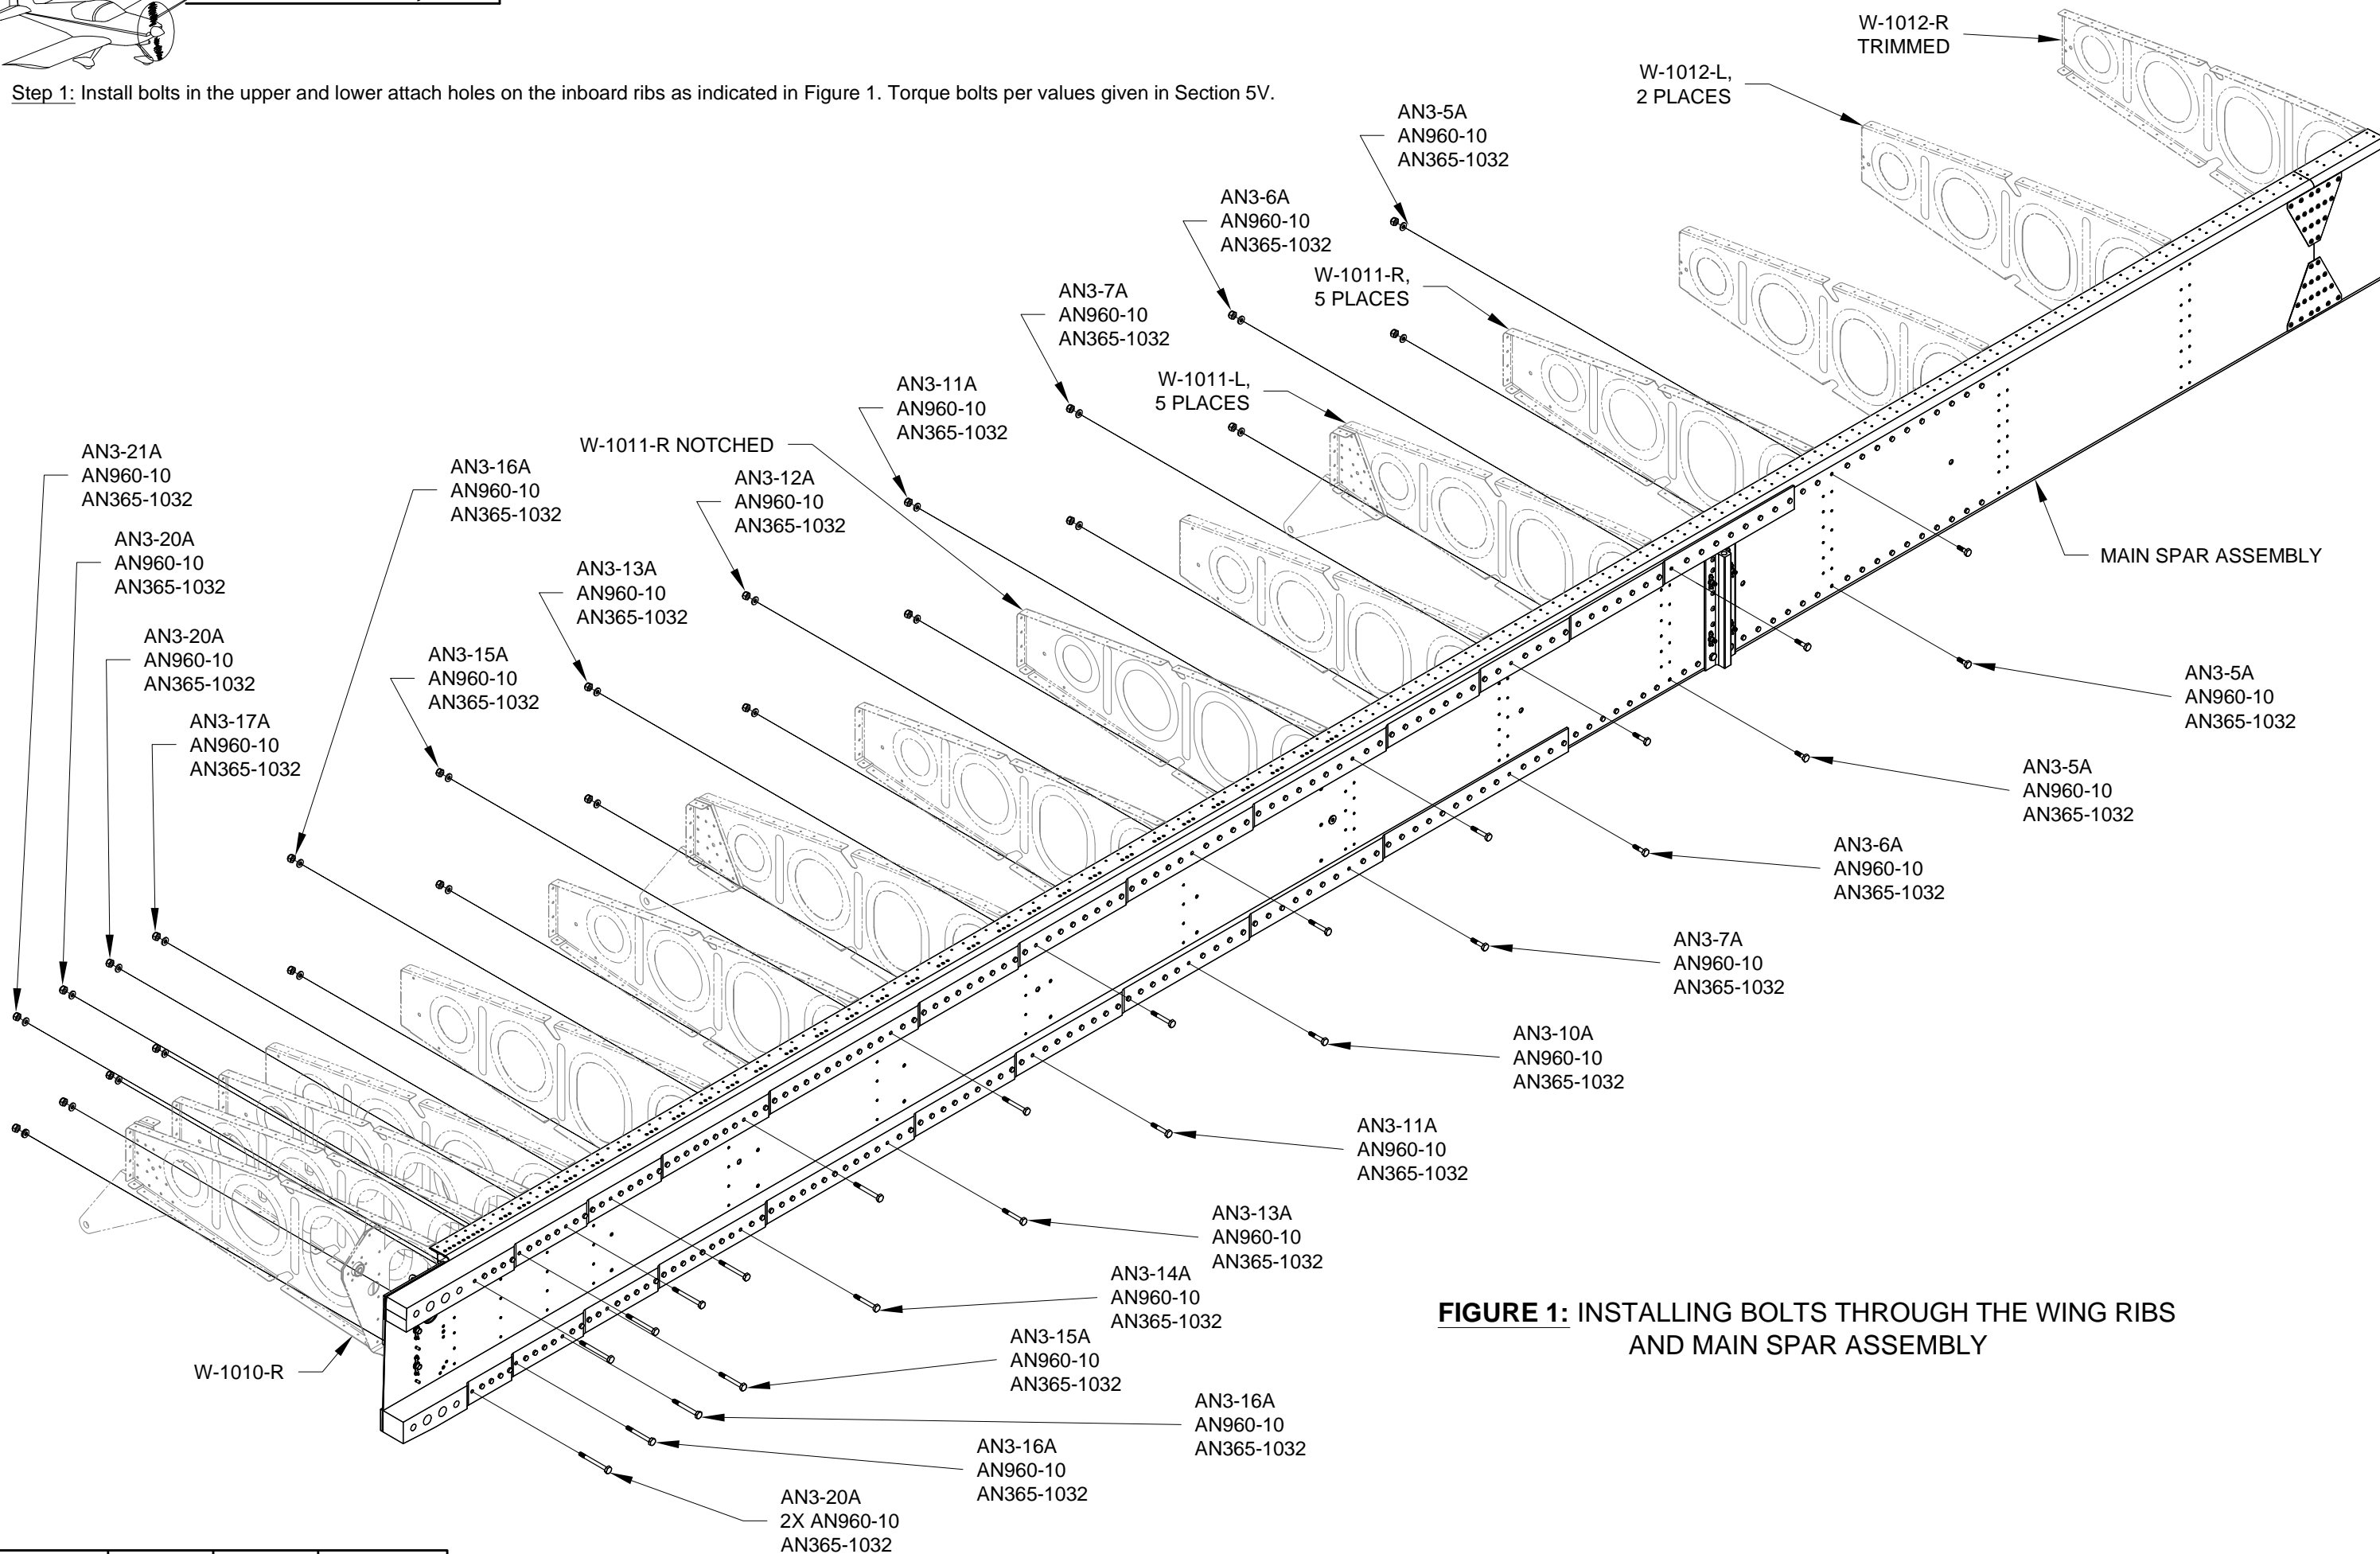

FIGURE 1: INSTALLING BOLTS THROUGH THE WING RIBS AND MAIN SPAR ASSEMBLY
Step 1: Install bolts in the upper and lower attach holes on the inboard ribs as indicated in Figure 1. Torque bolts per values given in Section 5V.